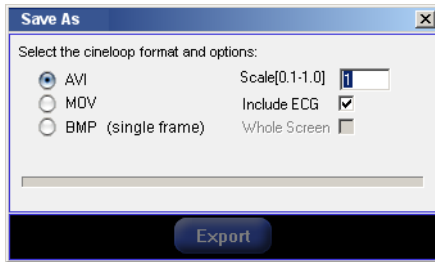

Fig. 58 Export movie format options
- 5 Click the Export button (see Figure 58). A progress bar is displayed while the movie is exporting.
The current frame can also be saved as a BMP image, as shown in Figure 58. Follow the steps for saving a cineloop as a movie, but select the BMP (single-frame) option from the Save As window. Like cineloops, single-frame BMP images are also watermarked with the ImaCor logo.